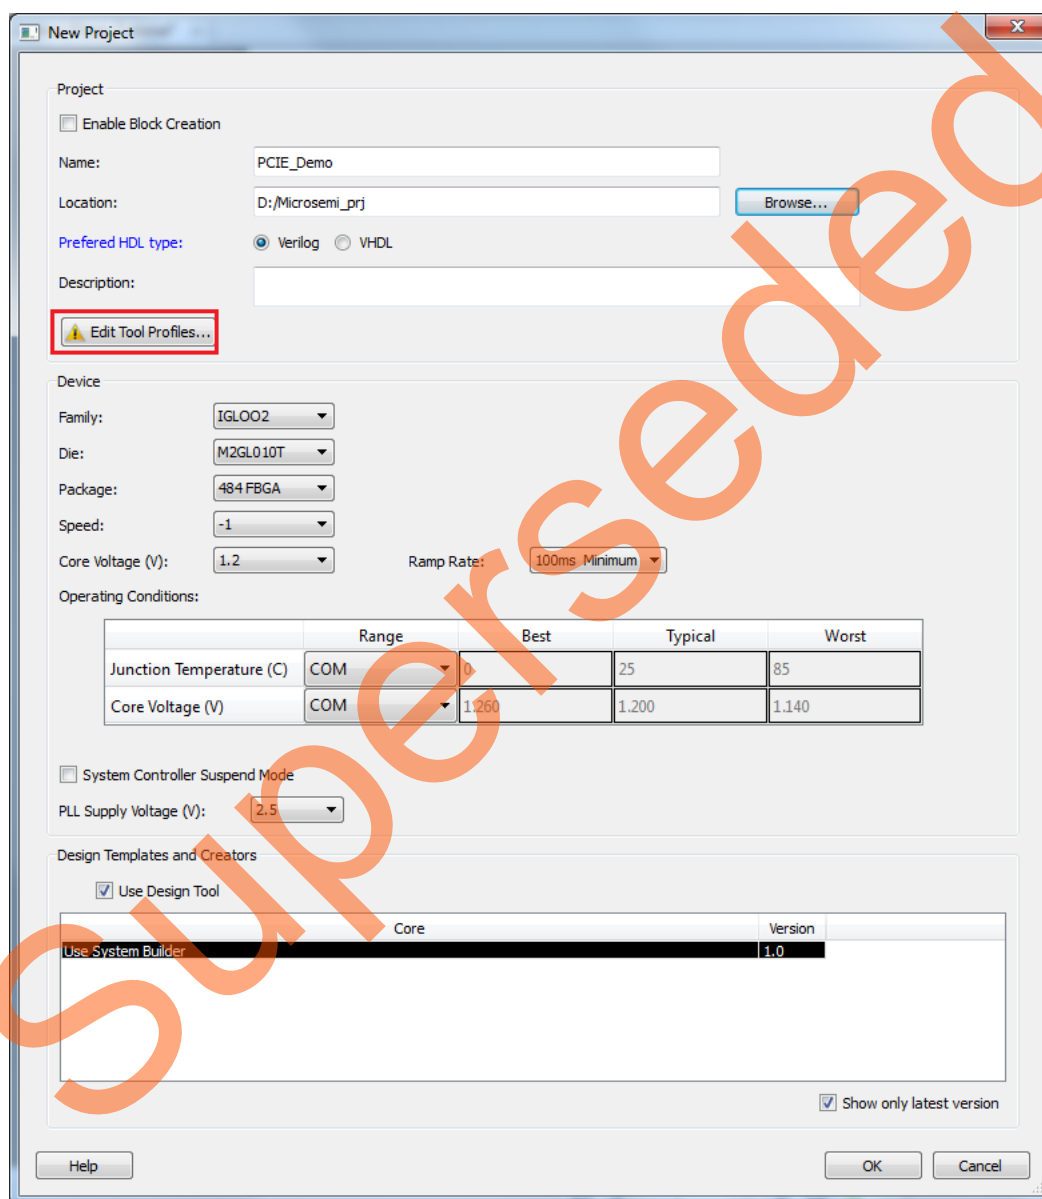
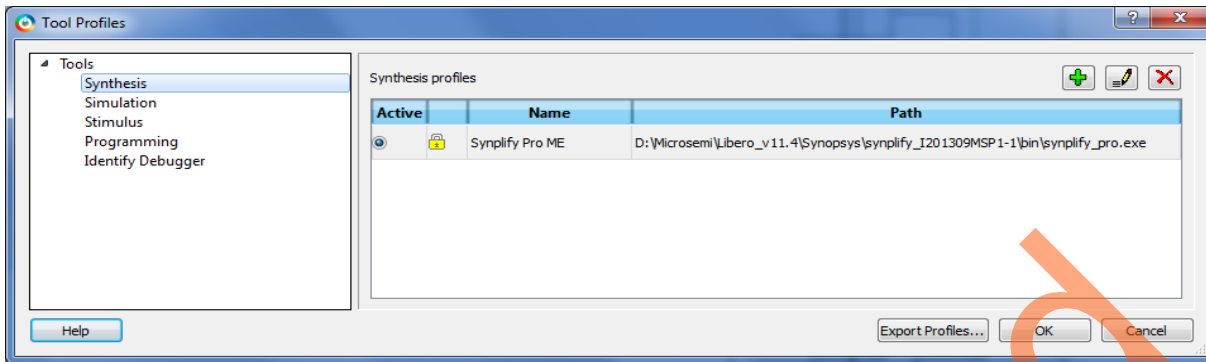

Figure 3 • Libero SoC New Project Dialog Box
Figure 4 • Tool Profiles
3. Enter the information as required for the new project and the device in the **New Project** dialog box as shown in Figure 3.
4. Clicking **Edit Tool Profiles** (highlighted in Figure 3) displays the **Tool Profiles** window as shown in Figure 4. Check the below tool settings: